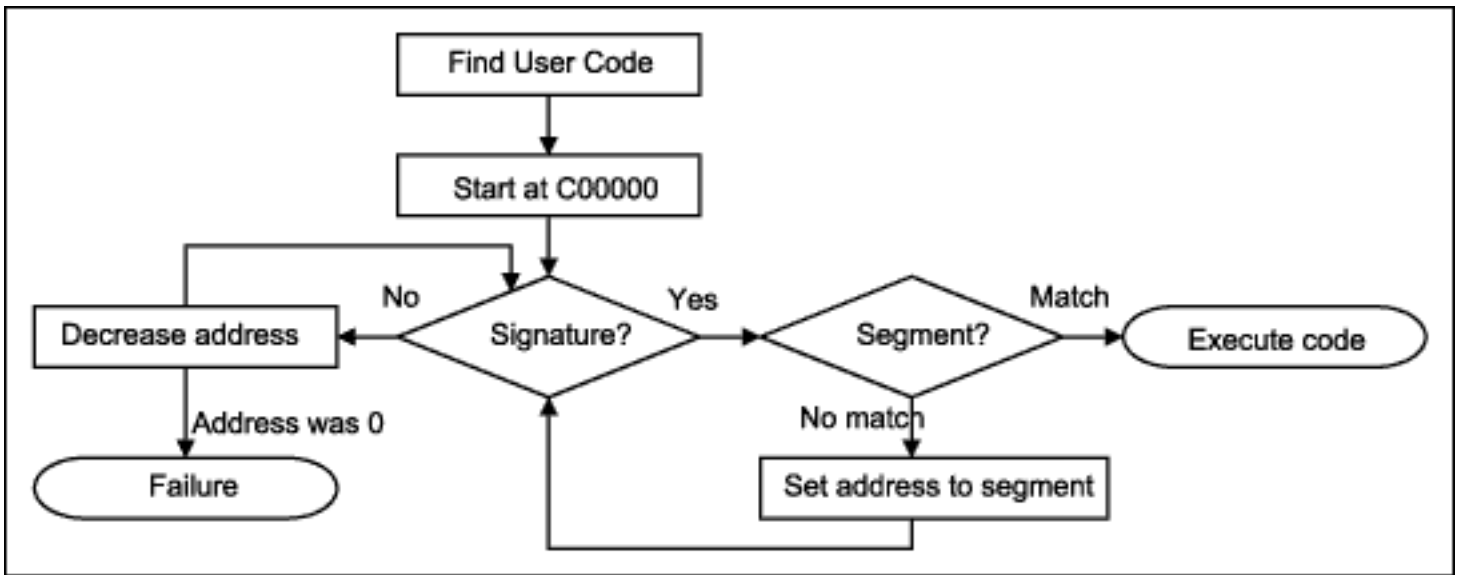

Figure 2. Determining the start address of code.
**Figure 2** illustrates how NetBoot locates user application code in external memory.